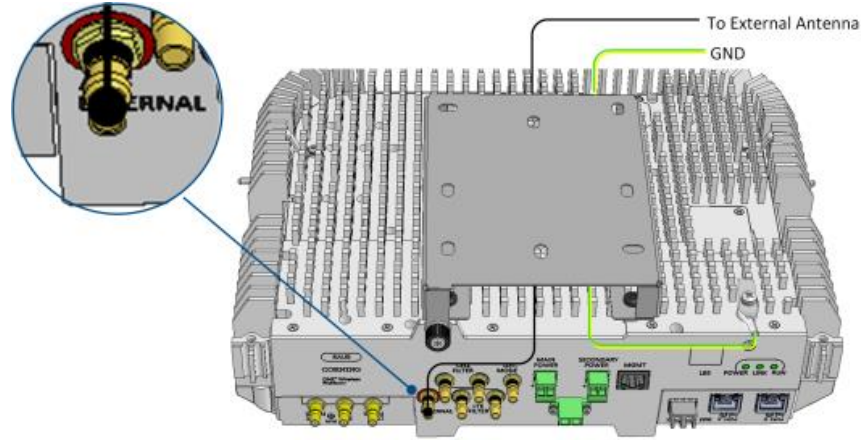

Figure 4-32. RAU5x External Antenna Connection
1. Connect the RAU5x QMA “Ext. Ant.” connector to the external antenna, as illustrated in Figure 4-32.